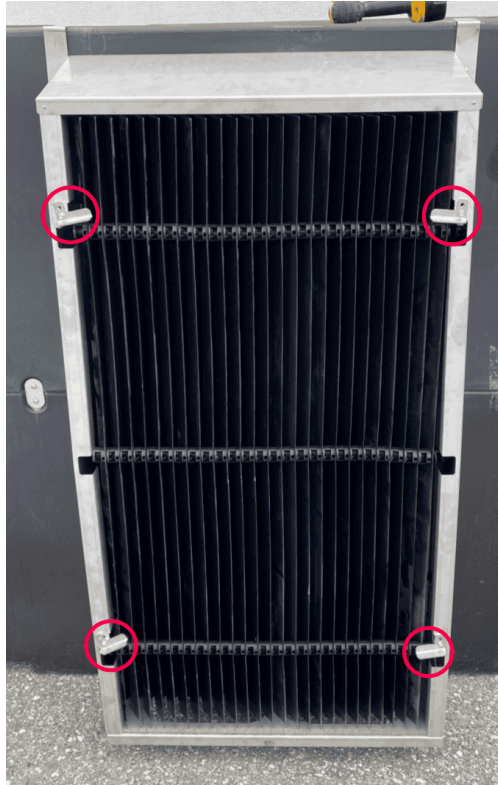

Figure 39 Latches in the closed position
- h. Turn the four (4) latches to the closed position to hold the assembly in place, as illustrated in Figure 39.